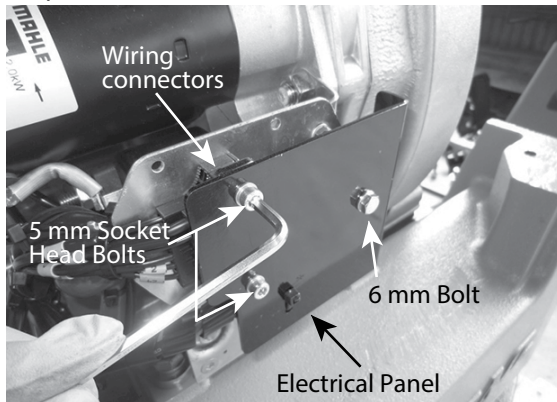

Figure 46. Electrical Plate Installation
12. Secure the electrical panel to the plate behind it with the 6 mm bolt and two 5 mm socket head bolts that were removed earlier (Figure 46). Make sure the two existing wiring connectors are secured between the panel and the plate with the 5 mm socket head bolts as shown.